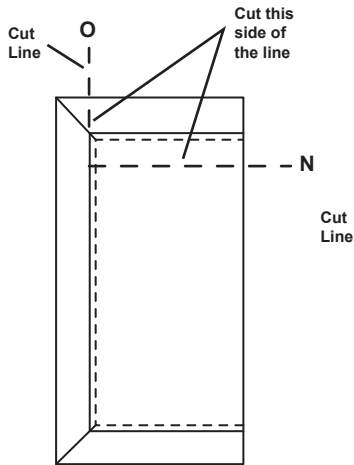

Figure 4a
2. Determine the orientation of the false tread facing the stair. Mark the length of the tread from the edge of the front moulding to the back **N**. Using a straight edge mark a cut line along the inside edge of the side moulding through the back end of the tread and moulding **O**. (See Figure 4a.)
3. Cut across the width of the tread **N** towards the side moulding, stopping at the edge of the moulding. **CAUTION! Do Not cut through the moulding!** Finish the cut with a coping saw. (See Figure 4a and 4b.) **NOTE: It is a good idea to make preliminary cuts inside of the outlines and then recut, file, or sand to final fit.**
4. Cut from the back of the tread along the edge of the moulding **O** intersecting the previous cut. Finish the cut with a coping saw. (See Figure 4a and 4b.)